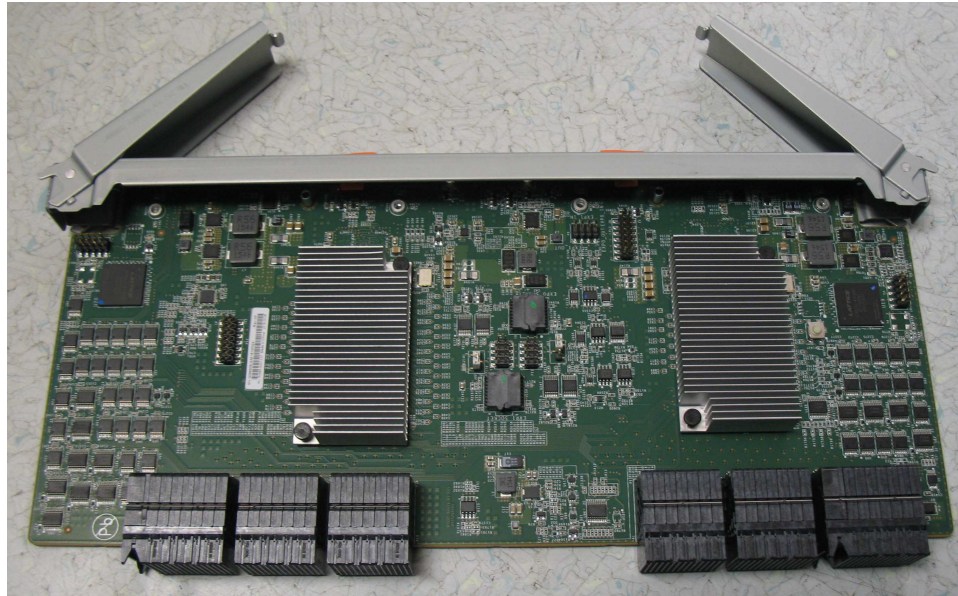

Figure 68. Secondary expander module removed from the enclosure
5. Place the secondary expander module in a safe location, as shown in Figure 68 on page 212.